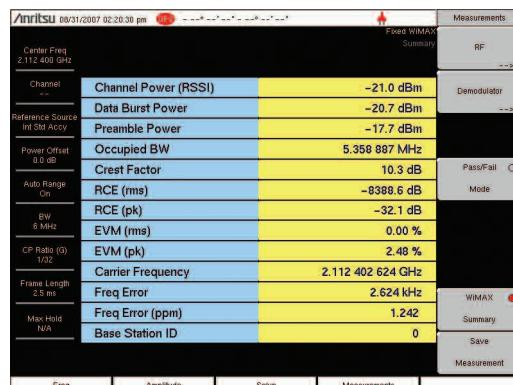

Figure 14. WiMAX Summary screen.
2. Press the WiMAX Summary soft key to activate the measurement. The red dot on the soft key indicates it is selected (Figure 14).